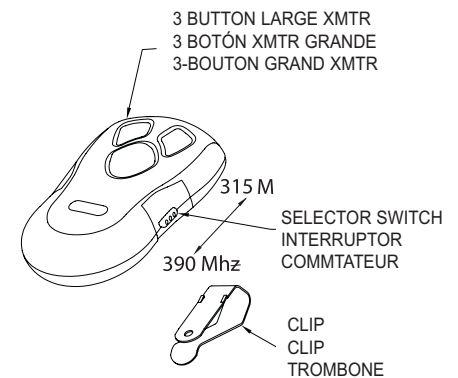

Fig. 2
Step 5-1 Battery replacement **Fig. 2**
The receiver in the GDO's powerhead can receive signals at 315 AND 390 MHz. The remote is factory set at 315 MHz. See Figure 2 for frequency selector switch settings.